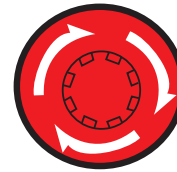

Figure 69. Emergency Stop Button
1. To stop the engine in the event of an emergency, press the **Emergency Stop switch** (Figure 69).